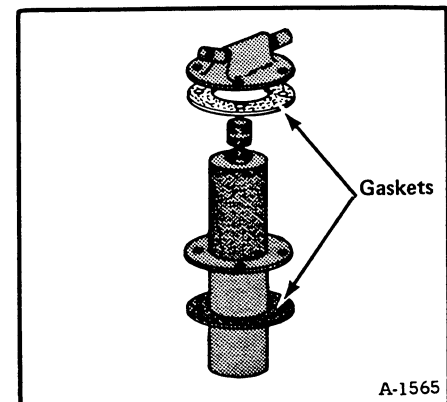

Fig. 1-49 100 Mesh Filter Assembly
- (5) Install two new gaskets (Fig. 1-49). Clean all surfaces and install the mesh.
- (6) Check hose condition and replace if necessary.
- (7) Tighten the fastening bolts to 20 ft.-lbs. (27,12 Nm) torque.
- (8) Connect hoses to filter fastening plate.